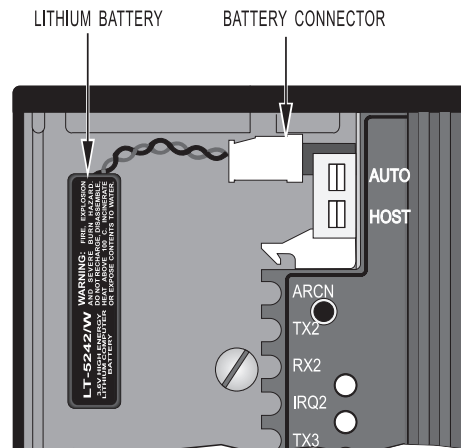

Figure 3-10: Connecting the RAM Backup Battery
4. Connect the battery connector to its mate, as shown in Figure 3-10. Factory packed controllers are shipped with the battery disconnected. The battery is located inside the controller mounted to the base with a Velcro® strip.